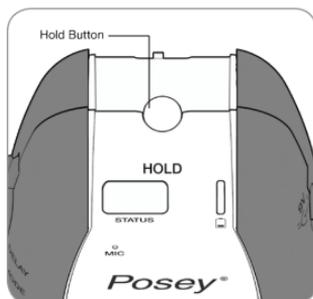

Fig. 11
1. Press **HOLD** button on the top of alarm (Fig. 11) The **STATUS LED** will begin flashing RED indicating the alarm is in HOLD mode.
1. Press **HOLD** button on the top of alarm (Fig. 11) for 3 seconds. The **STATUS LED** will begin flashing RED indicating the alarm is in **HOLD** mode and an audio cue will say “5 minute HOLD activated”.